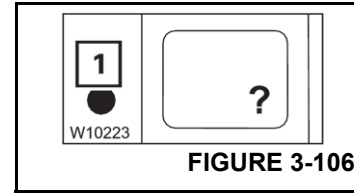

FIGURE 3-106
When all errors are remedied, the lamp (1) (Figure 3-106) goes out.